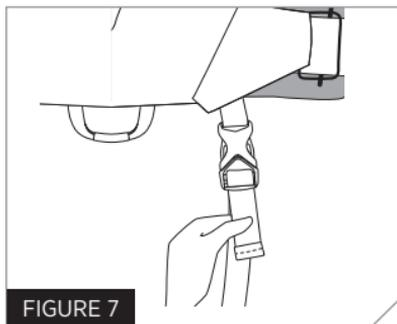

FIGURE 7
- **After donning PFD:** reach back between legs for the straps and buckle into bottom front of PFD (Fig. 7). Tighten by pulling down evenly on straps until the length is correct for your body while standing.